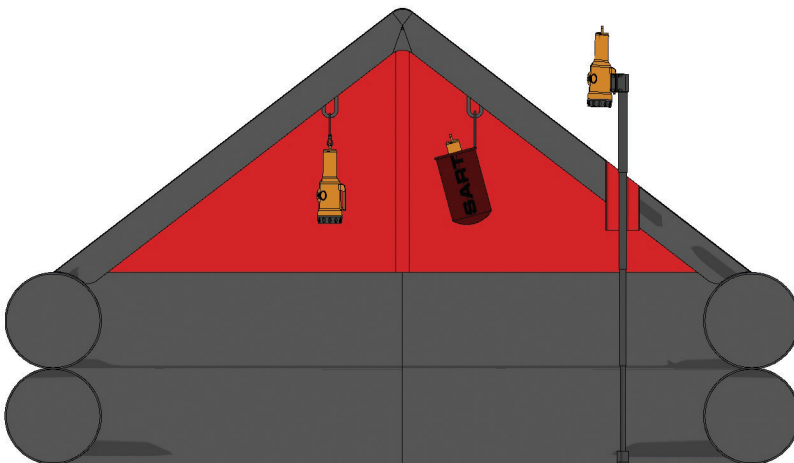

Figure 5.2.1, How to mount Tron SART20 to a life raft
From figure 5.2.1 above, left to right:
It is often a SART pocket where the Tron SART20 may be lifted to the canopy after deploying the raft (See figure 5.2.1, middle)
- Fasten the other end to the canopy as seen on figure 5.2.1
You may use the 1m Pole arrangement (part no. 82900) (See figure 5.2.1, right)
The last solution is to use the 10m lanyard (see figure 5.2.1, left) and picture below.
- Lift SART20 to the canopy and fasten as seen on figure 5.2.1, left